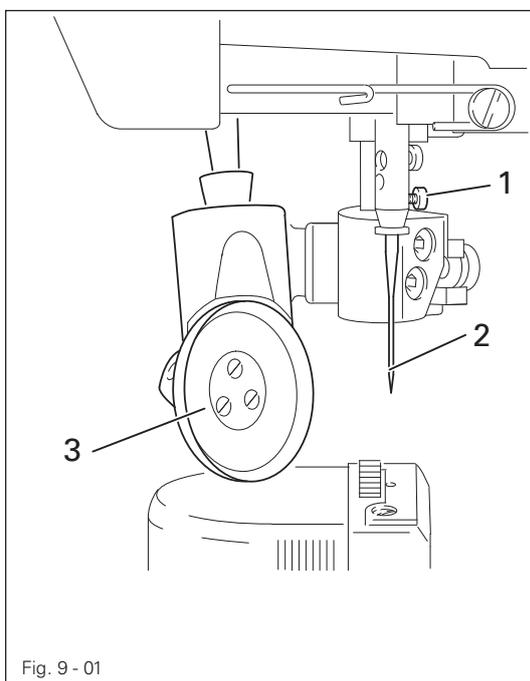

Fig. 9 - 01
- Thread in the thread as shown in Fig. 9 - 02 and wind it round the bobbin 1 a few times in an anti-clockwise direction.
- Insert the bobbin as shown in Fig. 9 - 05
- Thread the needle thread as shown in Fig. 9 - 05. Please ensure that the needle is threaded from **left to right**.